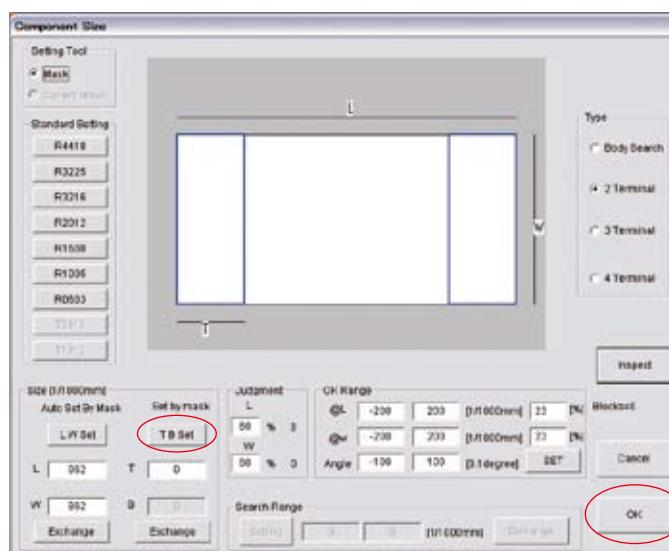

Figure 1-5 TB Setting
Step12: Press **Option** in the right side of **Algorithm**. The window shown in Figure 1-5 appears.